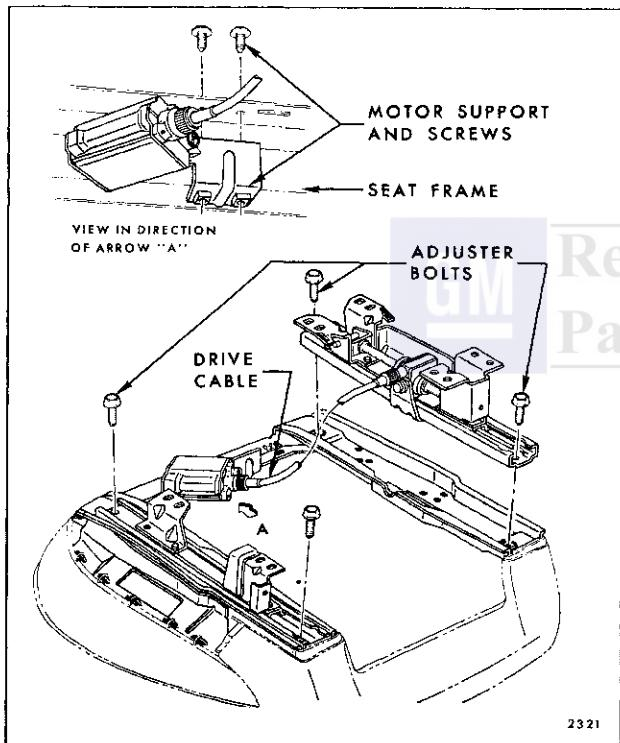

Fig. 15-44—Power Horizontal Bucket Seat Adjuster Removal
- Disconnect power drive cable from adjuster gearnut (Fig. 15-44).
- Remove adjuster-to-seat bottom frame front and rear attaching bolts (Fig. 15-44) and remove adjuster from seat assembly.